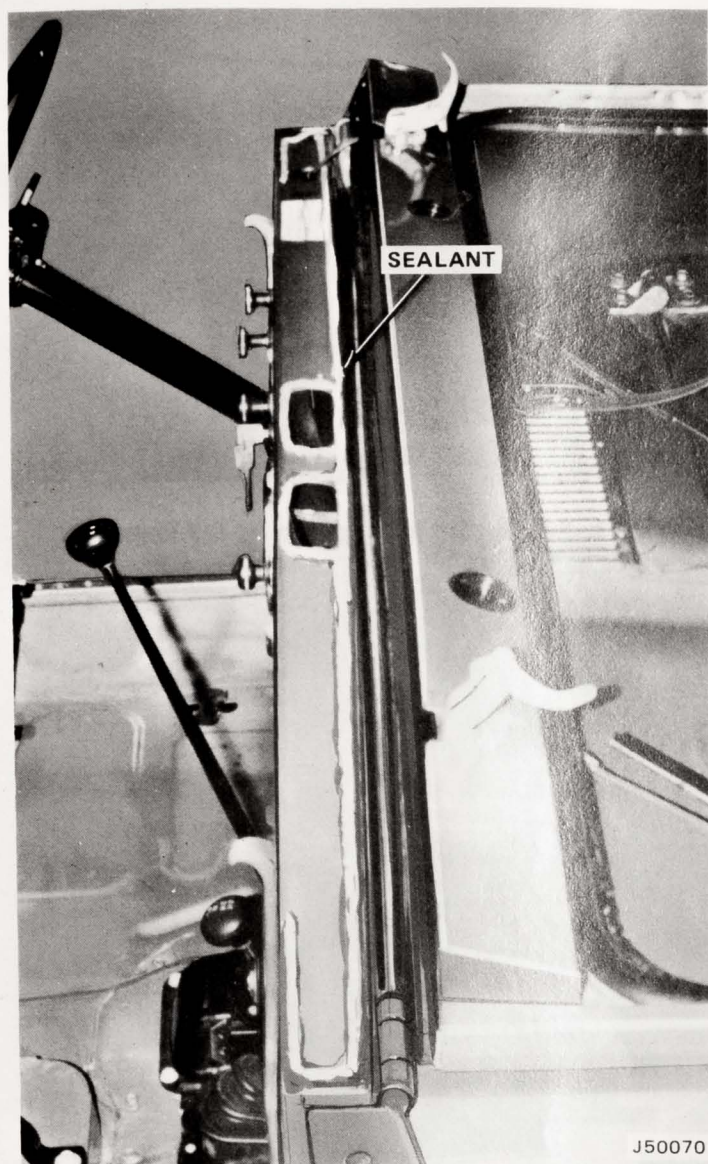

Fig. 2-2 Windshield Sealant Applied to Cowl Top
(1) Unlatch windshield and pivot forward to rest on hood.
(2) Apply strip sealant across top edge of cowl, positioning it along front edges of air duct openings (fig. 2-2). Apply sealant around edges of both openings.
(3) Return windshield to upright position, but do not latch.
(4) Loosen but do not remove screws attaching windshield hinges to body.